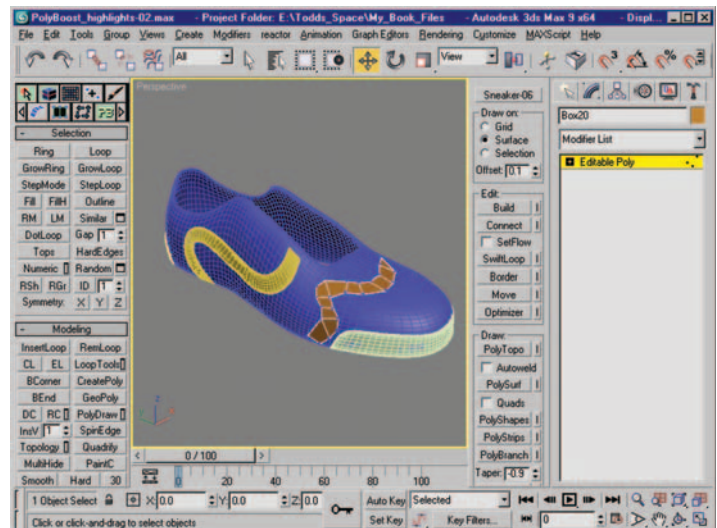

Figure 12.42 Resulting new mesh created on the sneaker’s surface using PolyShapes and SolveSurf.
4. Go down to the SolveSurf button and click it. A small window appears with options. Leave the settings at their defaults, and then click the SolveSurf button in this small window. This will “Create clean connections on Polygon shape,” resulting in a multi-polygon mesh. You may have some N -gons, so be sure to inspect and correct any problems in the new mesh. Figure 12.42 shows the result of using SolveSurf.